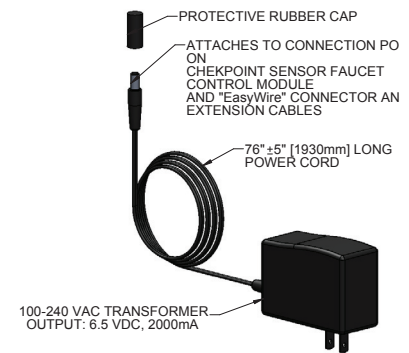

Figure 1
2. The EC-EASYWIRE kit consists of a 100-240 VAC transformer with a 76" long power cord which plugs into a standard wall outlet (Figure 1).